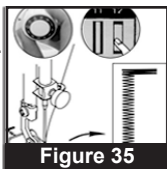

Figure 35
4. Lift the presser foot. Rotate the fabric so that you will now sew in the opposite direction. (Figure 35)